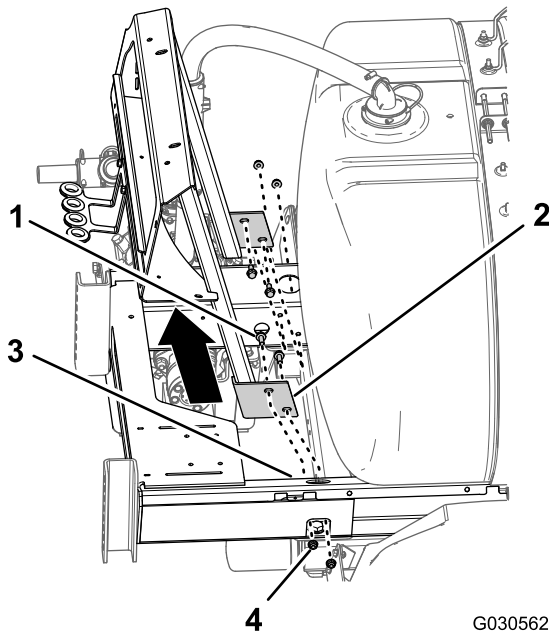

Figure 99
3. Remove the 4 flange-head bolt (3/8 x 1 inch) and 4 flange-locknut (3/8 inch) that secure the flange of the manifold mount to the frame of the sprayer chassis, and remove the manifold mount from the machine (Figure 99).